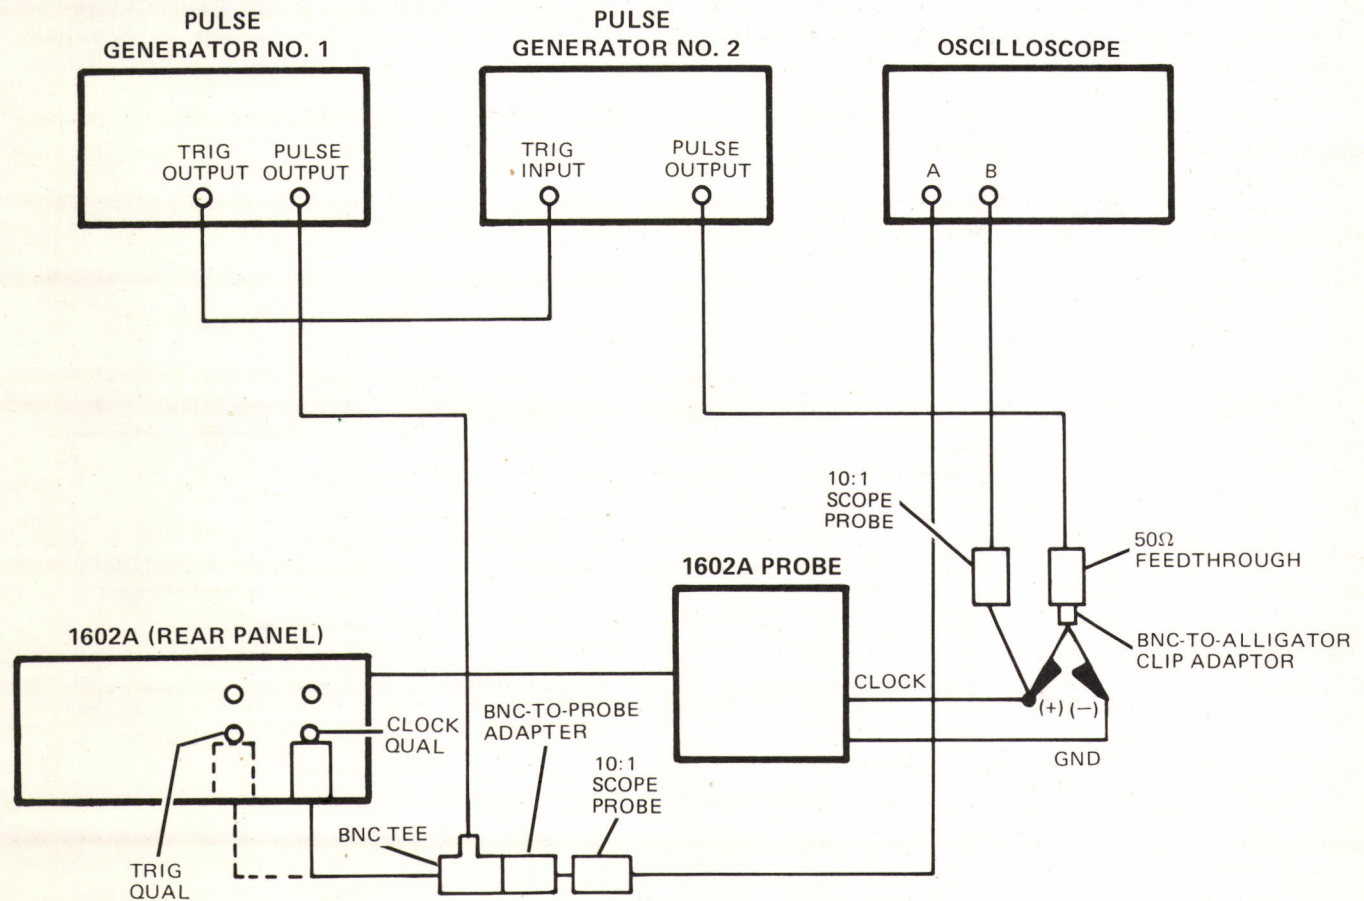

Figure 4-5. Trigger Qualifier and Clock Qualifier Inputs (Rear Panel) Test Setup
a. Connect test equipment as shown in figure 4-5 with pulse generator No. 1 connected to 1602A rear-panel CLOCK QUAL input.